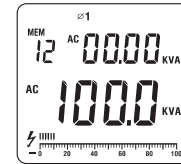

Figure 17
(see figure 17, 18, 19)
- Press **SELECT** to choose the first phase Ø1, see figure 17.